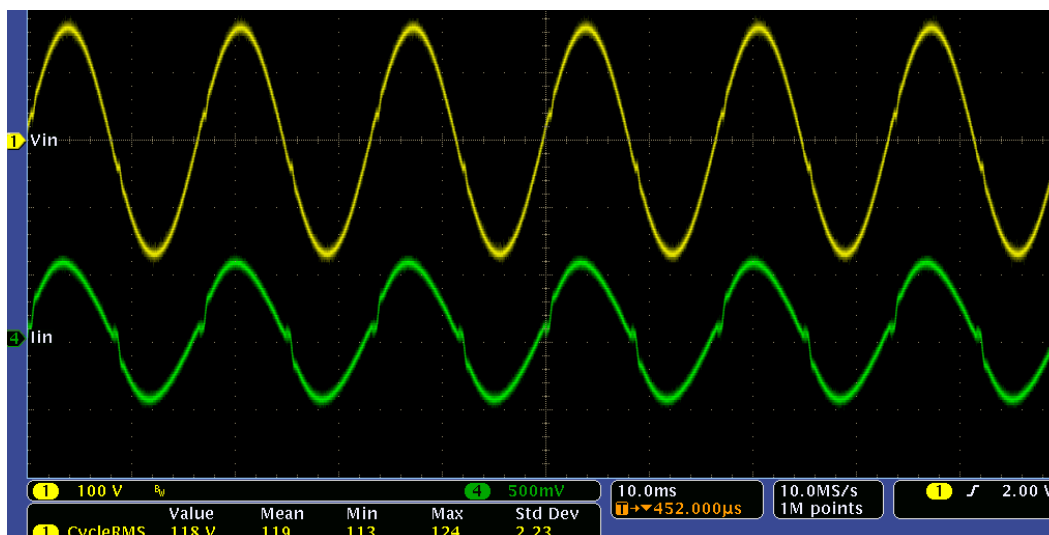

Figure 12. Scope capture of Input current and voltage waveforms for Build 2
16. The following oscilloscope captures show the input line voltage and current seen under the conditions described above is shown in Fig 12. This clearly illustrates the PFC action.